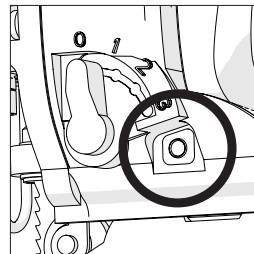

Fig 12
- Push the 'Air Blower' control slide fully to the right (as seen from the operators viewpoint) (Fig 12)